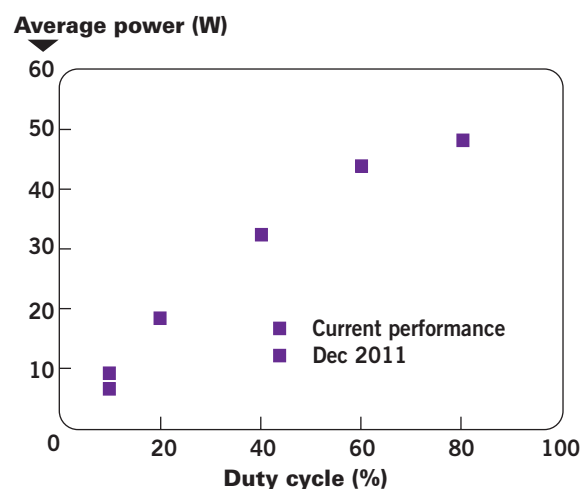

FIGURE 3A. 50W average power at 80% duty cycle using pre-pulse.
technology allows the droplet to be conditioned by a first laser pulse with energy less than that of the main heating pulse, which then strikes the target after it has developed into a tin vapor cloud of lower density which enables a higher conversion efficiency (CE) into EUV energy at $\lambda = 13.5\text{nm}$. Testing was conducted to characterize the pre-pulse operational mode; the results are shown in **Fig. 3a and 3b**. The duty cycle of the source was increased up to 80% where the source was operated at an average EUV power of $\sim 50\text{W}$.